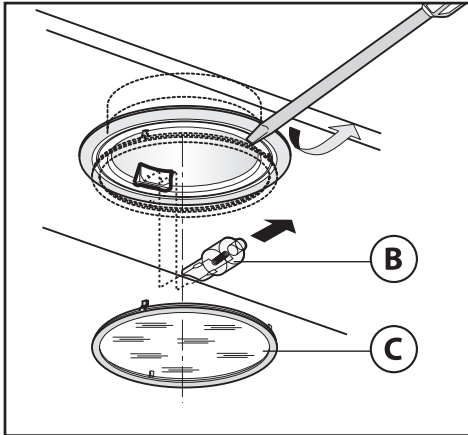

Fig.8
- 4.2 Replacing halogen light bulbs (Fig.8): 10
4.2 Replacing halogen light bulbs (Fig.8):